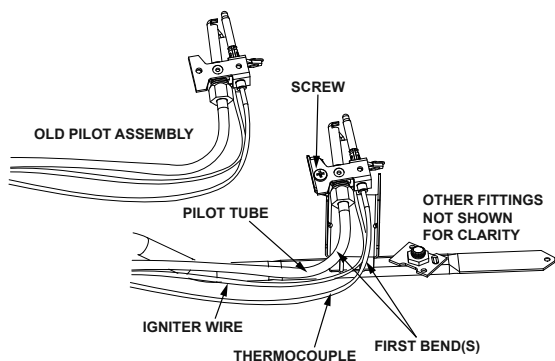

FIGURE 36.
- Remove and keep the screw securing the pilot assembly to the pilot bracket. (Figure 36)
- Using the old pilot/pilot tube assembly as a guide, bend the new pilot tube and new thermocouple to match the old ones. NOTE: Make only the bends closest to the pilot before going to the next step. (Figure 36)